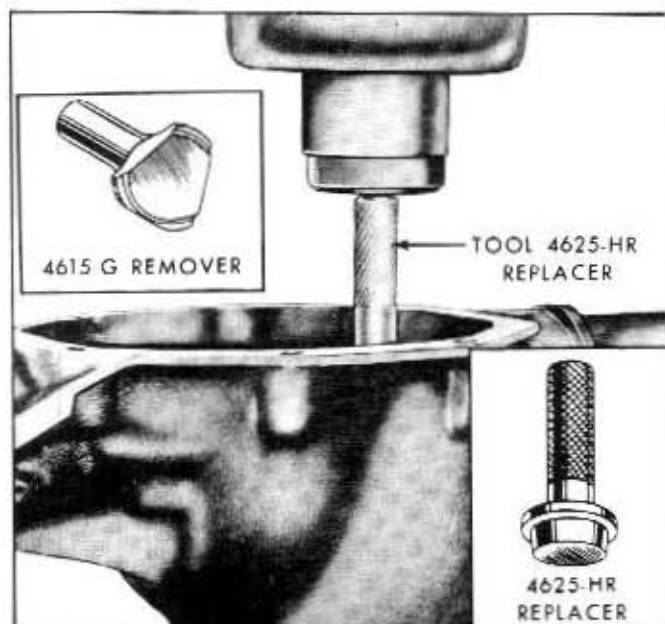

Fig. 4-22—Front Pinion Bearing Cup Removal, or Rear Pinion Bearing Cup Installation—(60C-5216)
14. With the use of Tools 4615-G and 4625-L press the cups out of the differential housing in the manner shown in figures 4-22 and 4-23.
16. Place the differential housing in an arbor press. Press the new rear pinion bearing cup into the housing with Tool 4625-HR. Replace the front cup with Tool 4615-HF. See figures 4-22 and 4-23. Pinion bearing cups must be solidly seated. Check the installation by attempting to insert a 0.0015-inch feeler gauge between the cups and the bottom of their respective bore.